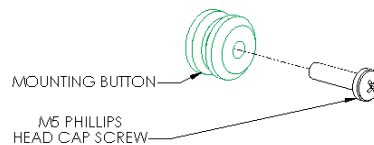
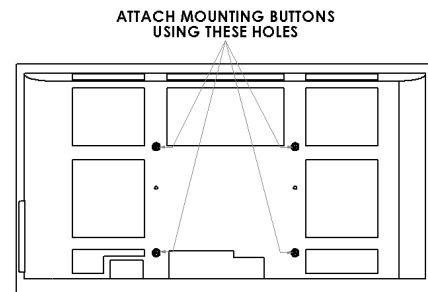

Figure 3
Figure 4
2. Attach mounting buttons to the display using four M5 screws provided (see Figure 3 & Figure 4).